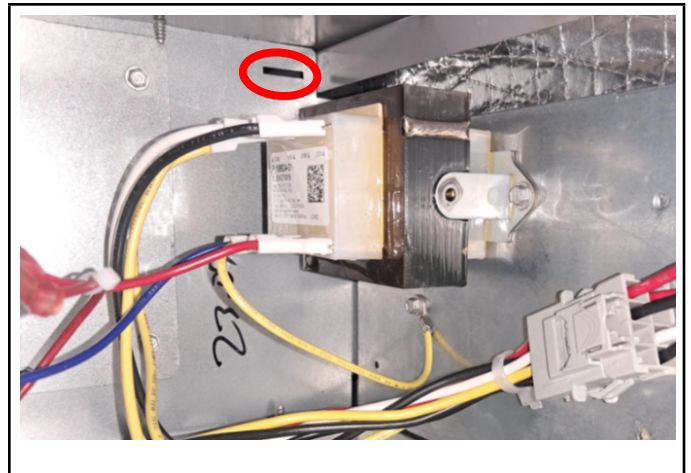
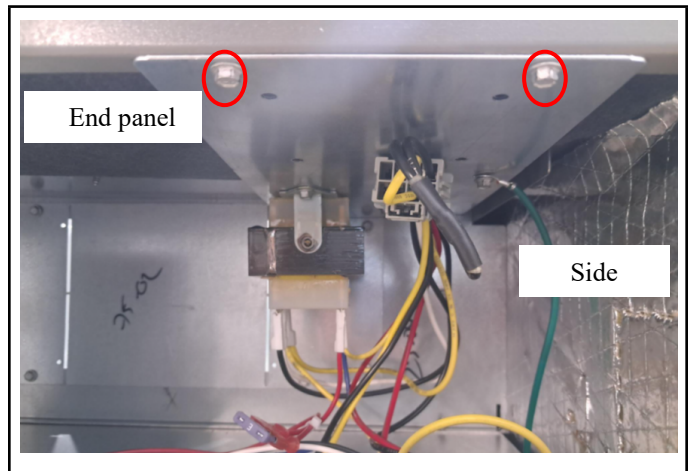

Figure 22. Notch for Control Panel Relocation
Figure 23. Control Panel Relocated to End Panel (Horizontal-Right Configuration)
- 2 - Slide the control panel into the notch on the electric heat mounting panel (Figure 22). Using the screws removed in Step 1, secure the control panel to the end panel, as shown in Figure 23.